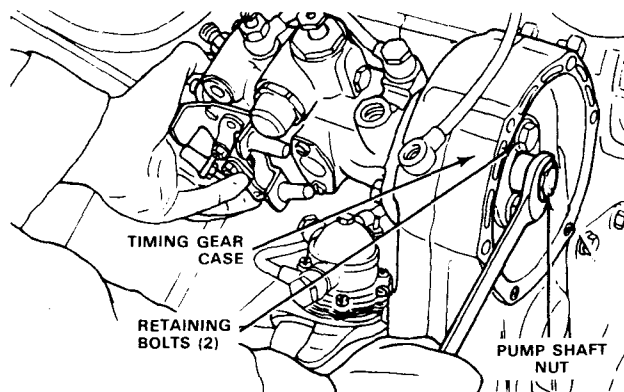

FIG. 10 Removing Injection Pump From Engine (SSD-327 and SSD-437)
4. Loosen the two bolts retaining the flange to the front of the drive gear one or two turns. Loosen the pump shaft nut (which also serves as a puller) and withdraw the pump from its driving gear (Fig. 10).